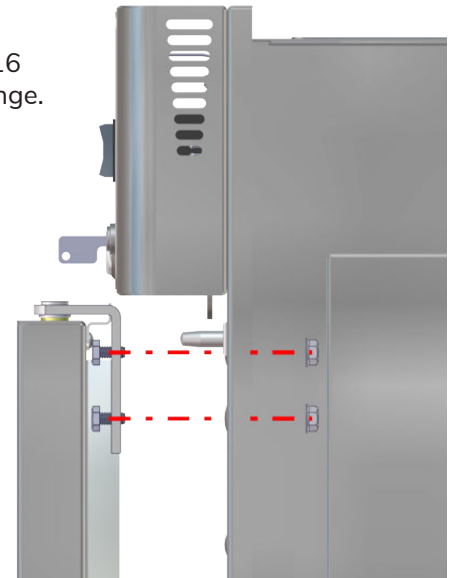

Fig. 59: Remove Steel Door
2. Remove the nuts that fasten the bottom hinge to the unit and remove the screws and bottom hinge (Fig. 59).